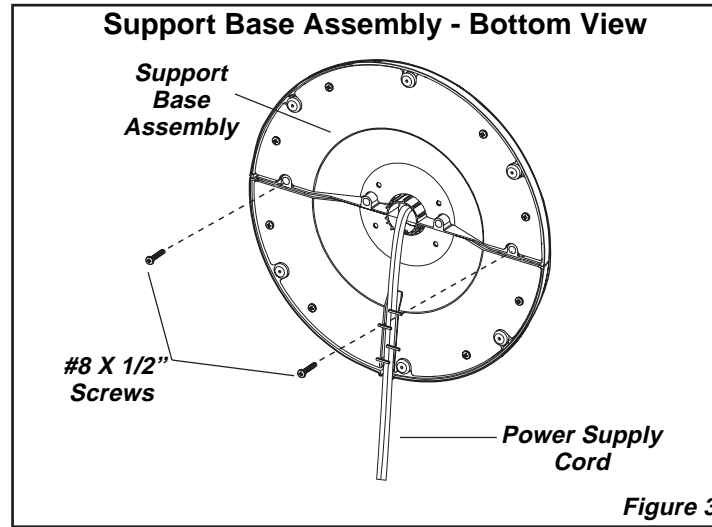

Figure 3
5. Secure the (2) **#8 X 1/2" Screws** into the two holes in the bottom of the base. (Figure 3)